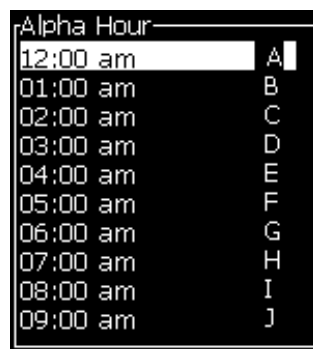

Figure 5-43: Setup Encoded Hour
- 3 Select *Setup Encoded Hour* and press *Enter* to open the *Alpha Hour* dialog box (see Figure 5-43).